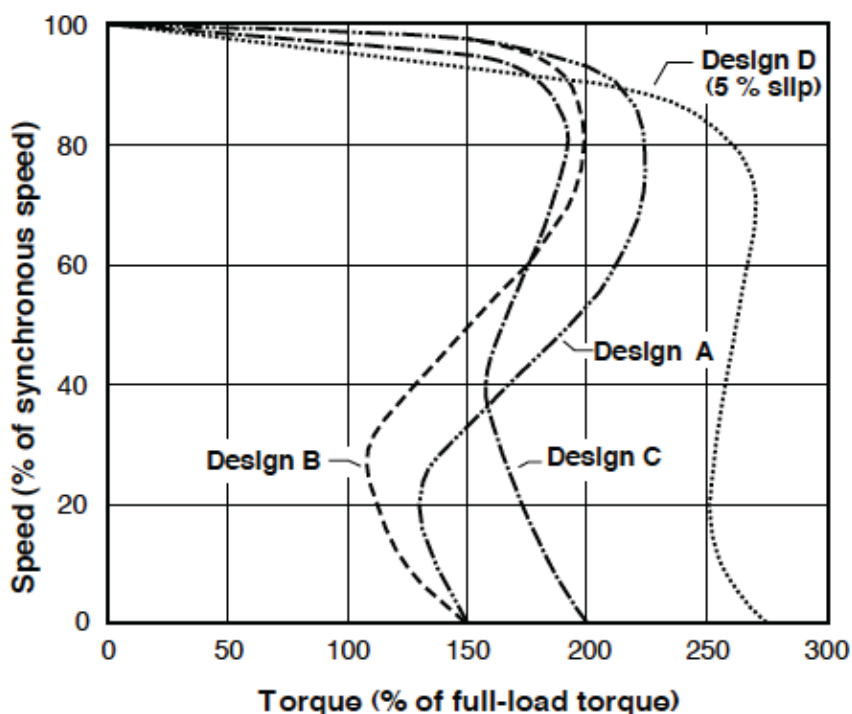

Figure 4. General Speed-Torque Characteristics
■ **Motor Selection.** To extend motor life, be sure to use the right motor for the application (see Figure 4 and Table 2). For instance, for an application that requires starting a high-torque load, a standard, general purpose NEMA Design B motor might be inadequate. A Design C motor, which has more starting torque than either a Design A or Design B motor and yet draws about the same starting current, might be required. If a Design A or Design B motor were used on a high-torque application, the overload protectors might trip before the motor could accelerate the load to operating speed. Even if overload protectors permit the motor to reach running speed, motor life would be shortened due to the additional heat generated during the prolonged starting period. *Be careful not to mistake the insulation class letter or kVA code letter for the design letter.*